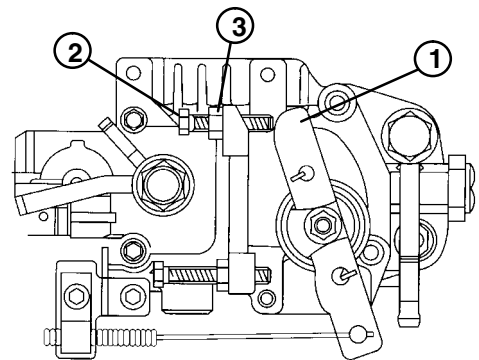

Figure 5
7. If idle speed is incorrect, adjust idle speed screw (Fig. 5).